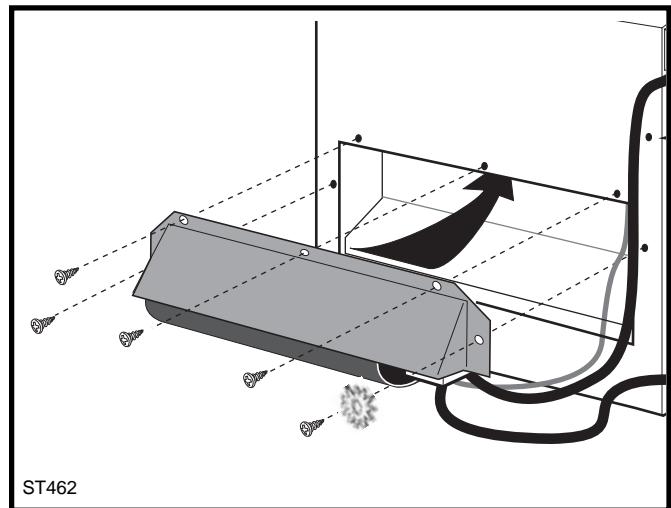

Fig. 20 Install the Fan body into the Rear Shroud.
1. Position the Fan body within the Rear Shroud as shown in Figure 20. The Fan's upper flange should be located behind the lip of the opening. Secure the Fan to the Shroud using five sheet metal screws and single star washer supplied with the kit.